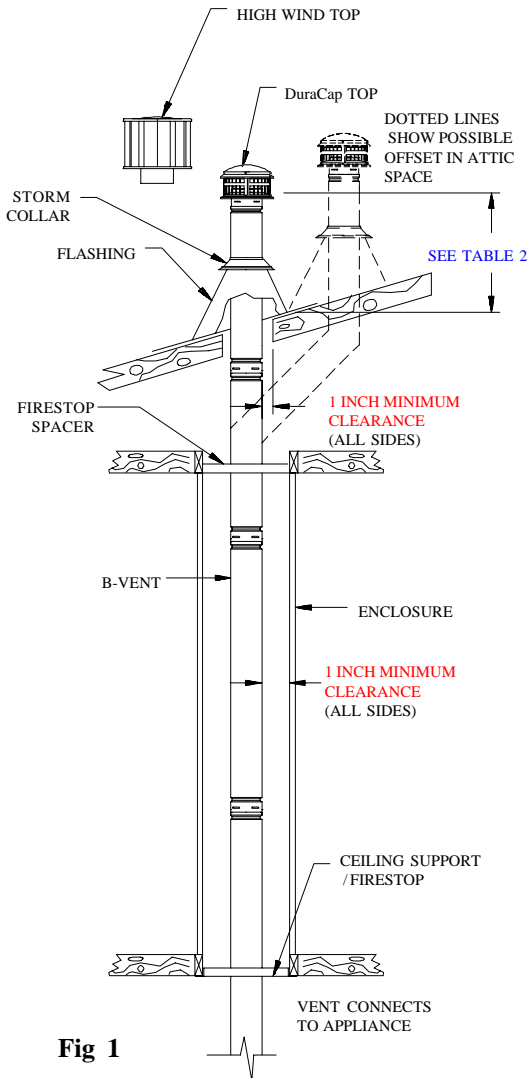
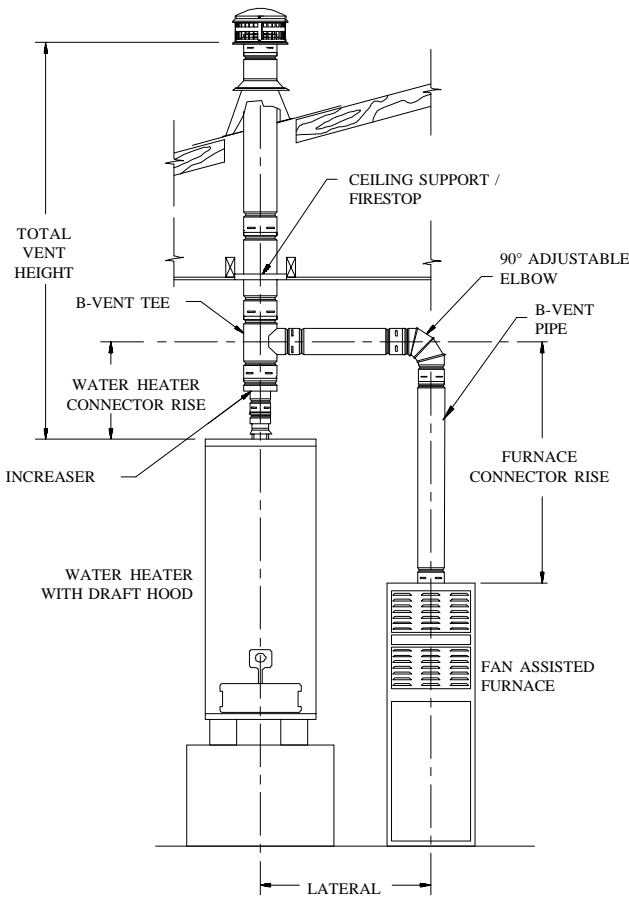
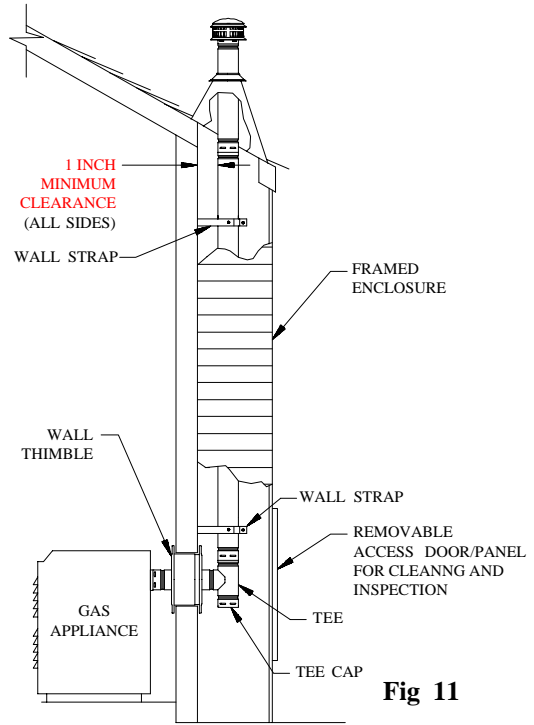

Fig 1
Fig 2
Fig 11
3. Figures 1, 2, & 3 show examples of some typical residential installations.
8. **Tees and Wyes.** **Tees** and **Wyes** are used to combine connectors from 2 or more appliances into a common vent as shown in **Figures 2** and **3**. A **Tee** should be used in a through-the-wall application, (**Figure 11**), as they have a removable **Tee Cap** (available as a separate item) attached to the bottom. This **Tee Cap** may be removed in order to inspect the system, or to clean out debris or collected condensate from the common vent. **Wall Straps** should be used to support the vertical pipe as needed to provide a secure installation. **Wall Straps** every four feet are recommended.
burns. **Figure 1** (page 2) shows a system which passes through an occupied second floor. Simpson Dura-Vent does not recommend installation of B-Vent Pipe on the outside wall of a building, particularly in cold climates. If it is necessary to do this, enclose the outside portion of the system in a chase, as shown in **Figure 11**.